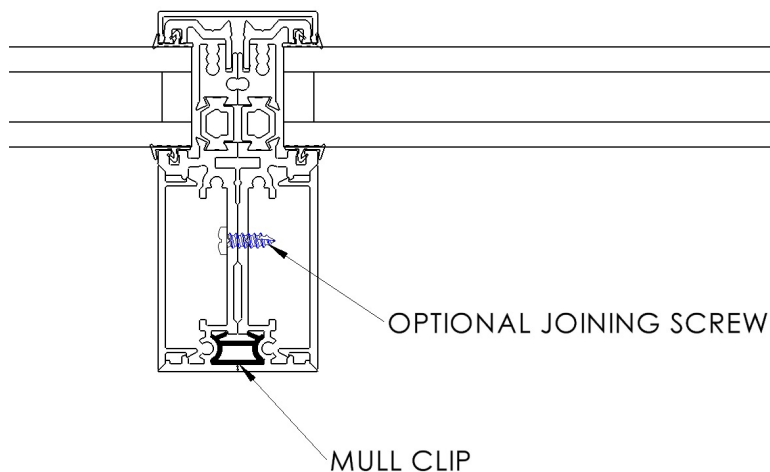

Figure 8
7. Begin to join the two (2) window units together until the frame members come into contact and the mull bar is no longer visible.
8. Verify that the reveal is even from top to bottom. If necessary, use quick clamps with the tips protected and squeeze the units together for an even reveal. Additional #10 x 1/2" joining screws shall be added between the two units, at 16" on center location, as shown in Figure 8 for units with a horizontal mull greater than 96".